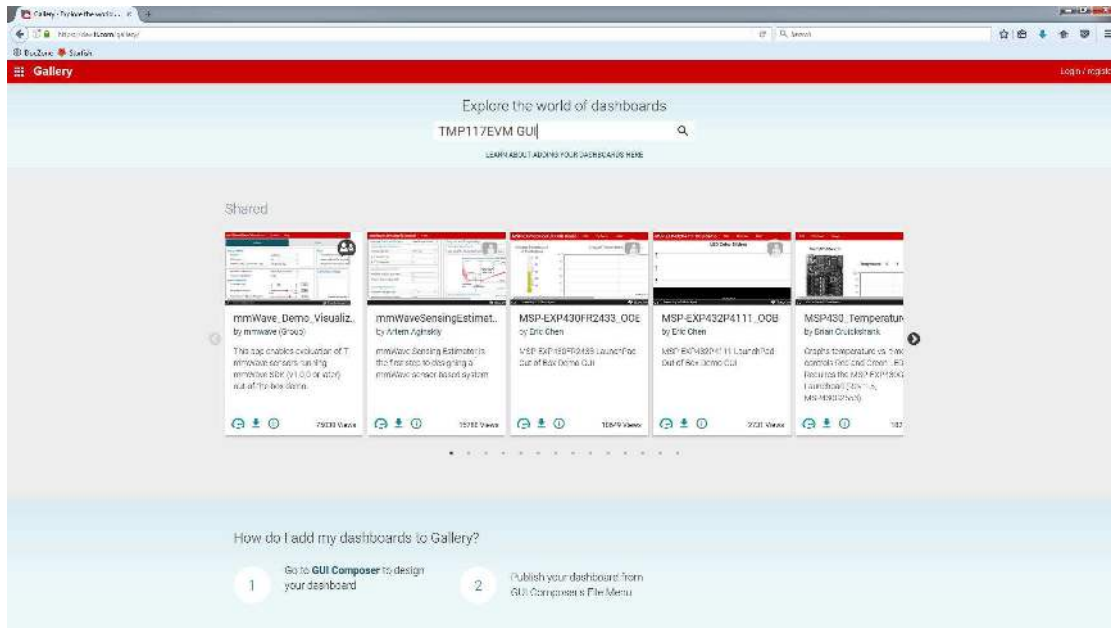

Figure 4. Gallery Home Page
2. On the top middle of the gallery main page, navigating to search box and type *TMP117EVM GUI* as shown in the Figure 4.